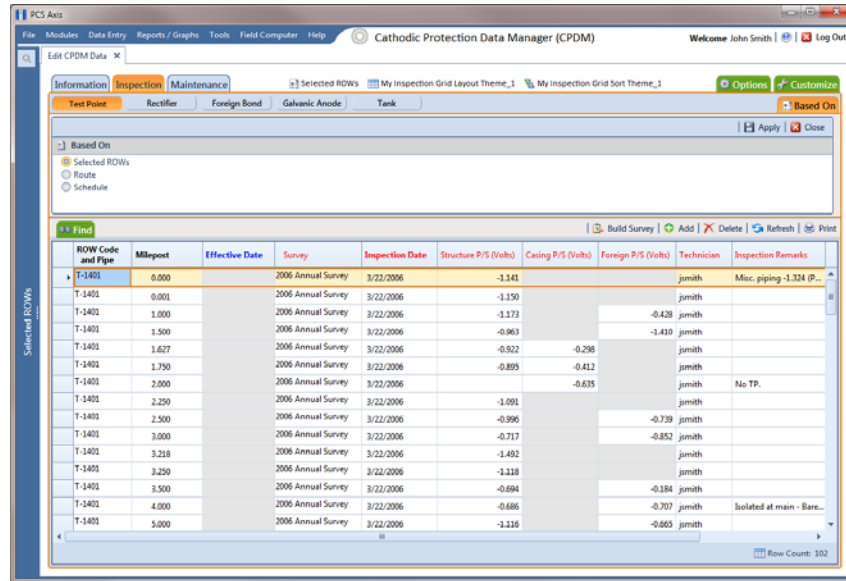

Figure 7-31. Based On Selected ROWs
- a Click the **Based On** tab  to open the based on panel and then complete the following steps (Figure 7-31, page 242):